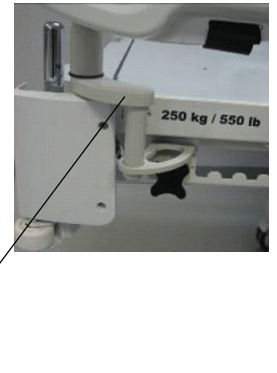

Figure 120 – Attaching the tray support
4. Attach the tray support pole into the bracket (F) and into the socket at the head end or foot end of the product (Figure 120).